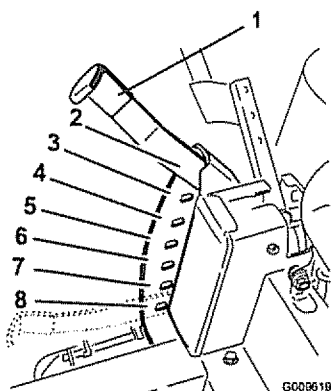

Figure 18
1. Raise the height-of-cut lever to the transport position, cutting height position 4.5 (also the 4-1/2 inch [115 mm]) (Figure 18).